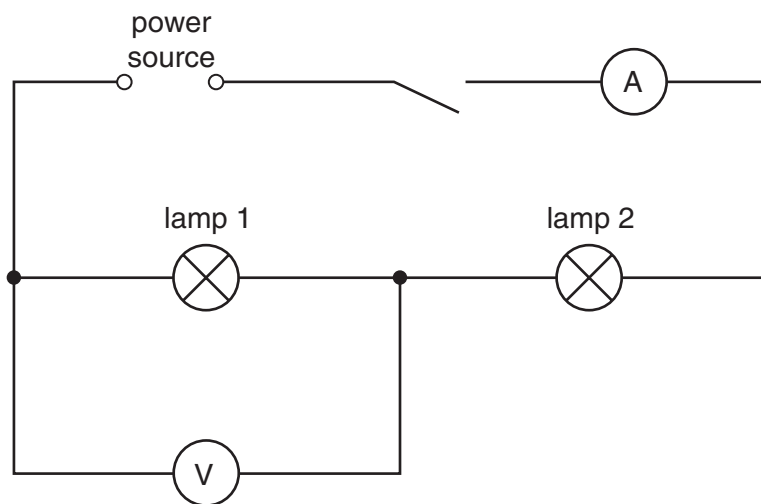

Fig. 4.1
- (vi) Sufficient connecting leads to construct the circuit shown in Fig. 4.1
1. The components should be connected as shown in Fig. 4.1.
4. At the change-over, reconnect the circuit as shown in Fig. 4.1.